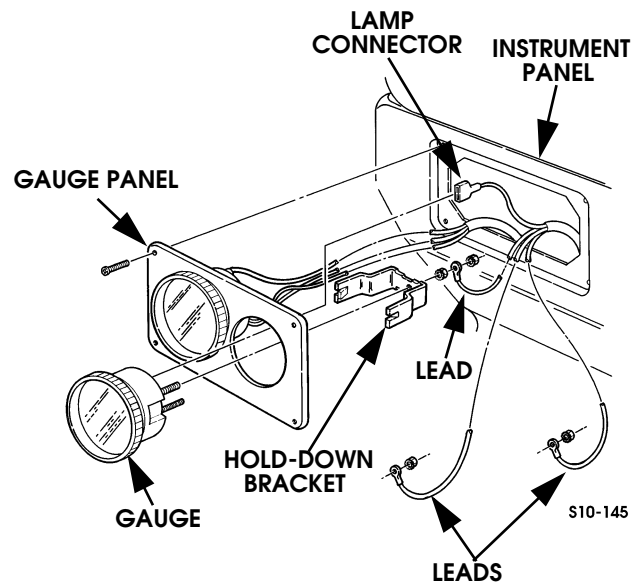

Figure 2-85: Gauge Replacement
1. Remove screws and pull gauge panel away from instrument panel (Figure 2-85).
1. Insert gauge through front of gauge panel (Figure 2-85).